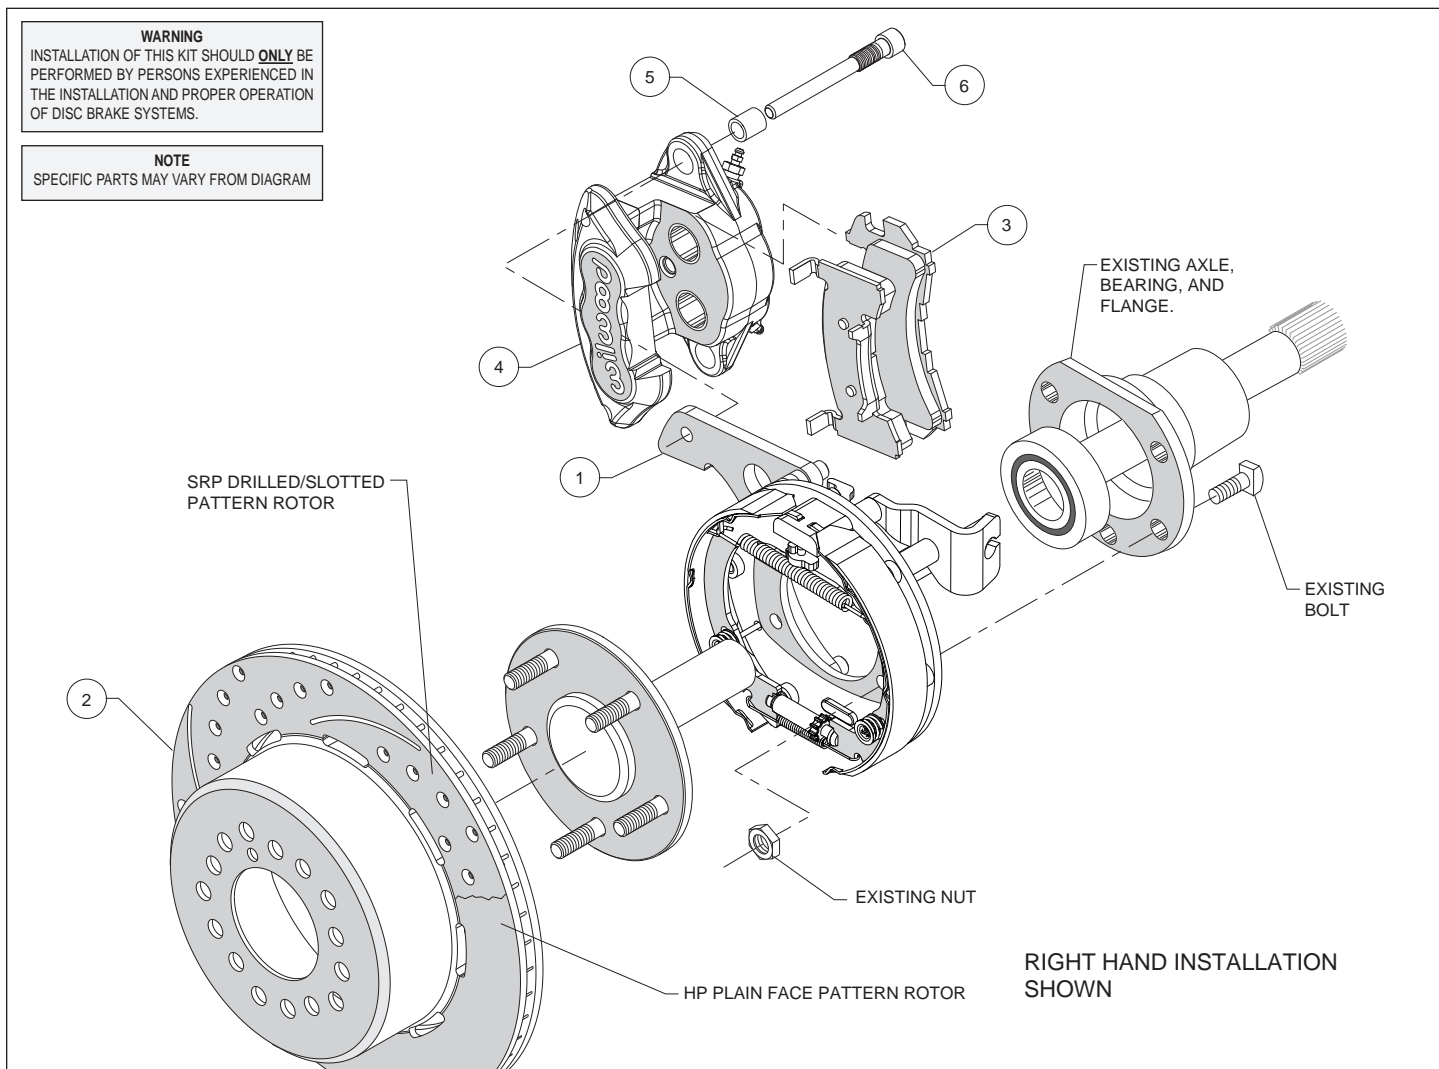

Figure 1. Typical Installation Configuration
Assembly Instructions (numbers in parenthesis refer to the parts list, and Figure 1 on the preceding pages): **CAUTION:** All mounting bolts must fully engage threaded holes.
- Orient the bracket assembly (1) as shown in Figure 1, and mount to the axle housing flange using the Original Equipment Manufacturer (OEM) bolts and nuts, Figure 1. Ensure that the bracket assembly backing plate fits flush against the axle housing flange. Apply red *Loctite*® 271 to the OEM bolt threads and torque to OEM specifications.
- Align the correct hole pattern in the rotor/hat (2) with the stud pattern on the axle flange and slide into place, Figure 1 and Photo 1. **NOTE:** The rotor/hat must fit flush against the axle flange or excessive rotor run out may result. Install three lug nuts (finger tight) to keep the rotor/hat assembly in place while continuing with the installation. **NOTE:** Some OEM and after market axles come with stud sizes larger than 0.50" diameter. Verify stud size and have a qualified machine shop drill the bolt circle of the hat/rotor to the correct stud size, if necessary.
- Install the disc brake pads (3) into the caliper (4) with the friction material facing the rotor, as shown in Figure 1 and Photo 2.
- Install sleeves (5) onto slide pin bolts (6). Apply white lithium grease (available from your local auto parts store) to the slide pins/sleeves, as shown in Photo 3. **Do not apply to threads.** Mount the caliper (4) onto the mounting bracket (1) using slide pin bolts, as shown in Figure 1. Torque to 35 ft-lbs.